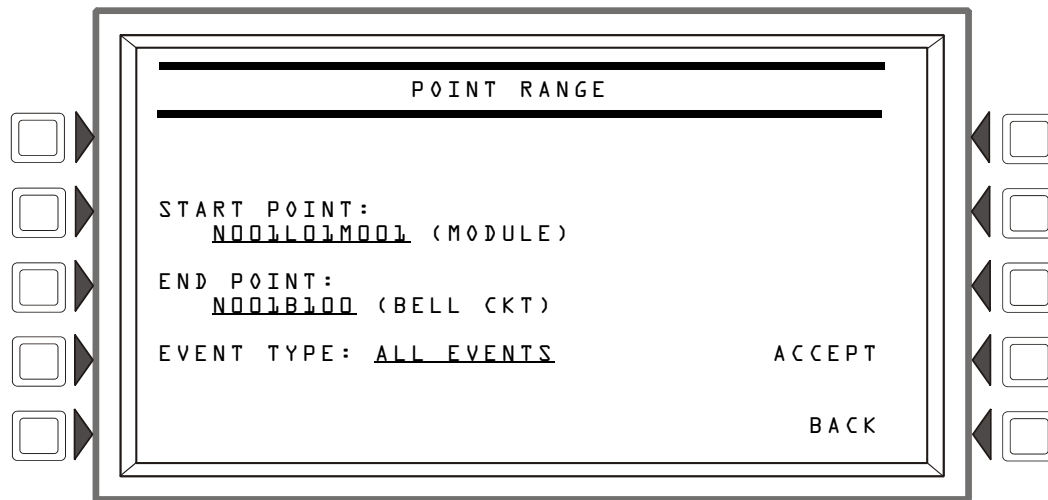

Figure 4.10 Point Range Select Screen
Selecting the **POINT RANGE** soft key on the Local History Select screen sets a range of device points for event display as shown in Figure 4.10 on page 50.
- From the Local History Select screen, press the POINT RANGE soft key (see Figure 4.10).
This example requests a history of all events on Node one only, Loop one only, for all modules, panel circuits and bell circuits. Since the start point specifies module device addresses (M001), detectors would not be included in this query as they are first in the device type order. Figure 4.10 shows how this inquiry would appear on the screen.